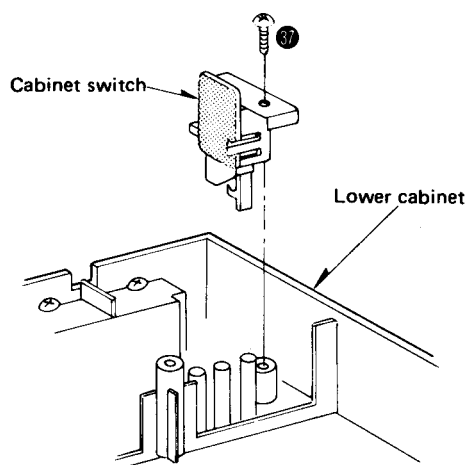

Fig. 12
2. Remove the setscrew of the cabinet switch. (Fig. 12 : 37)